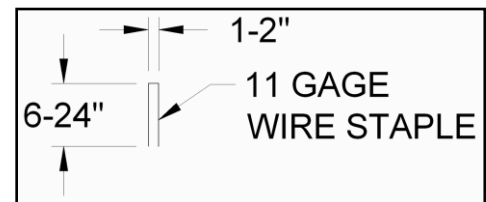
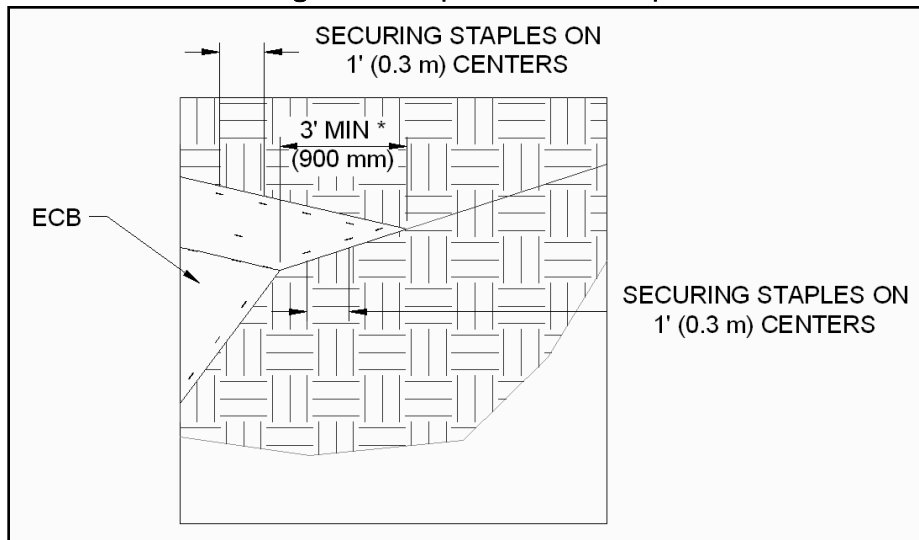

Figure 2: Securing Staple
Figure 6: Crest of Slope (COS) and Slope Armoring Edge (SAE)
- Secure LANDLOK ECB with staples on the COS edge. Staples should be made of 11 gauge steel, having a length between 6 and 24 in (150-600 mm) with sufficient ground penetration to resist pullout (Figure 2). Longer staples may be required for looser soils. Heavier metal pins may be required in rocky soils. Suggested placement of staples for the COS edge is along the edge with staples on 12 in (300 mm) centers (Figure 6). Staples should also be installed on panel edge overlaps on the COS edge.
- The leading edge of the first LANDLOK ECB panel should be secured on the Slope Armoring Edge (SAE) with staples on 12 in (300 mm) centers (Figure 6).